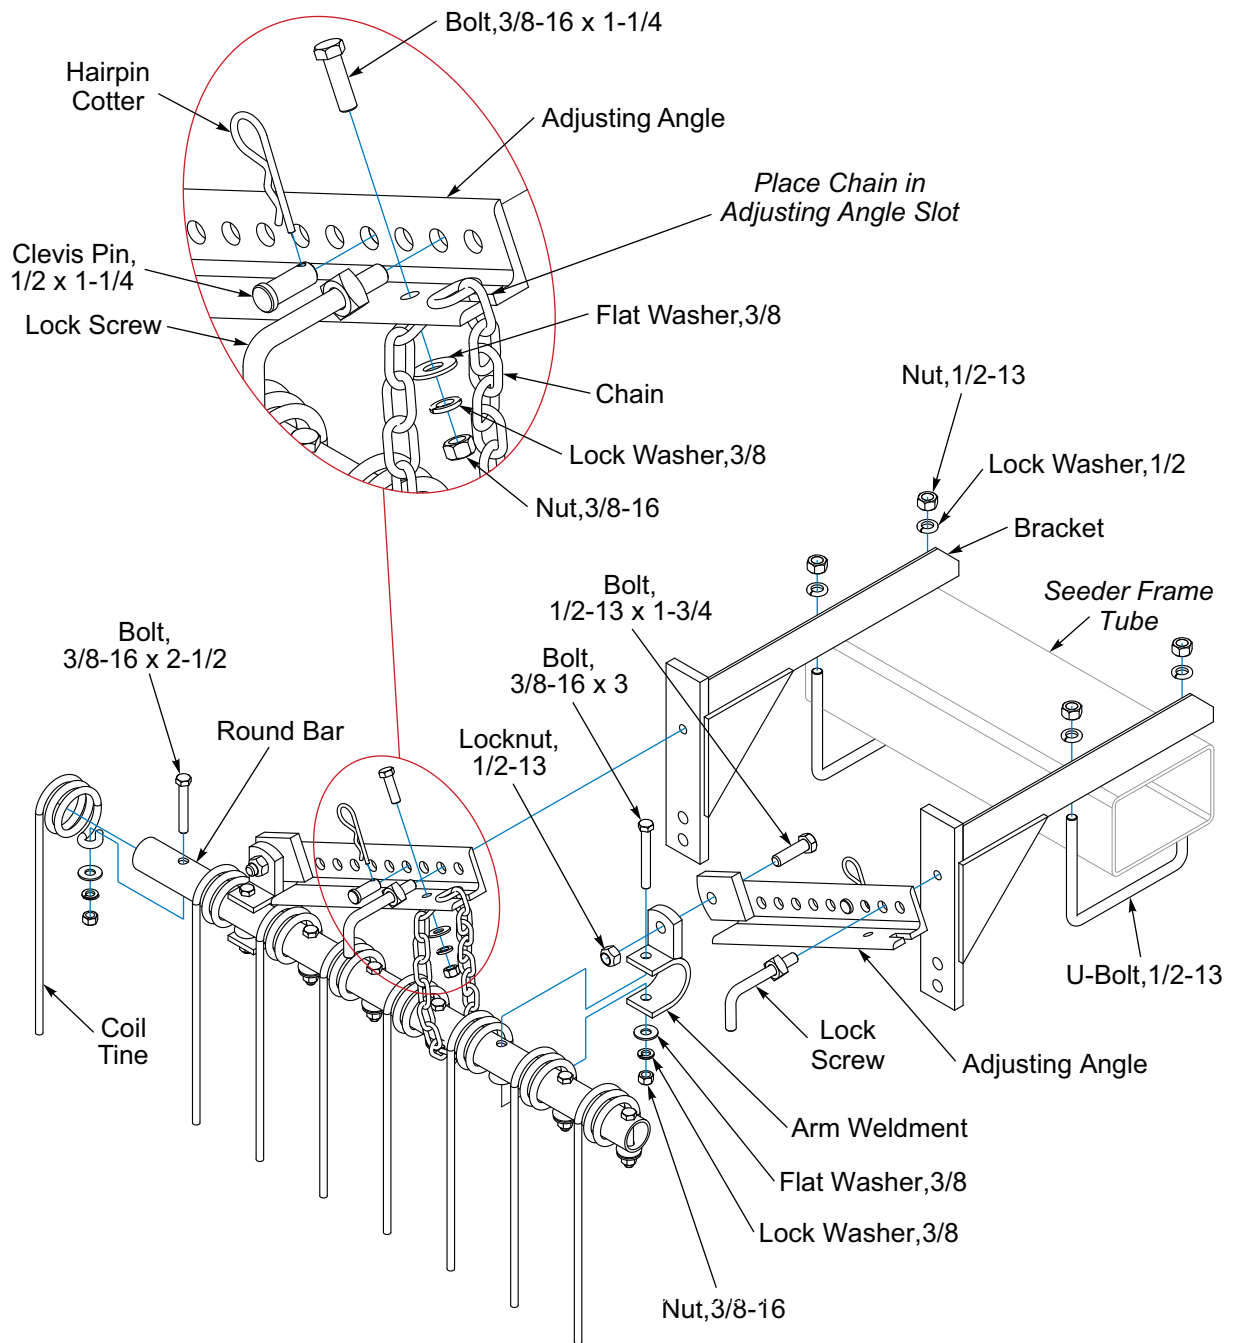

Figure 2-55: Coil Tine Setup
1. Slide the Coil Tines onto the Round Bar so that the straight leg is frontward. **See Figure 2-55.**